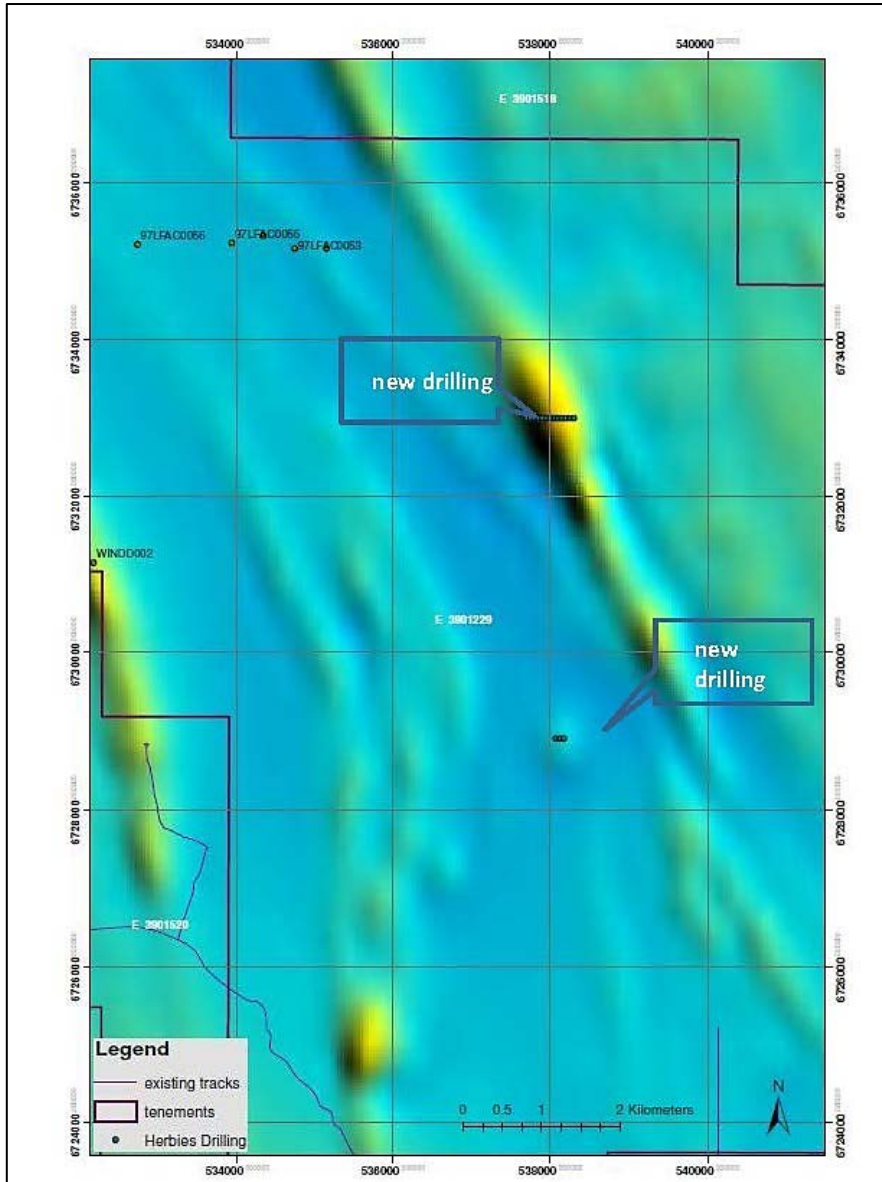

Figure 4 – a plan view map of the Windsor area showing recent drilling which intersected hydrothermal alteration with assays pending.
Sixteen (16) drill holes have been completed to test two prominent magnetic anomalies; see Figure 4. Drilling intersected strong hydrothermal alteration and sulphide mineralisation within a mafic/dolerite host, with assays pending. Figure 5 contains an example of drill chips from WINRC032.